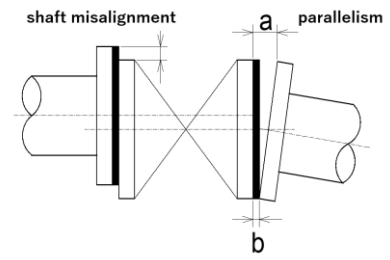

Figure 5.1-1
- 4) Keep the axial misalignment and parallelism of the flange surfaces within the values shown in ""Table 5.1-1 Axial Misalignment and Parallelism"". (Figure 5.1-1)